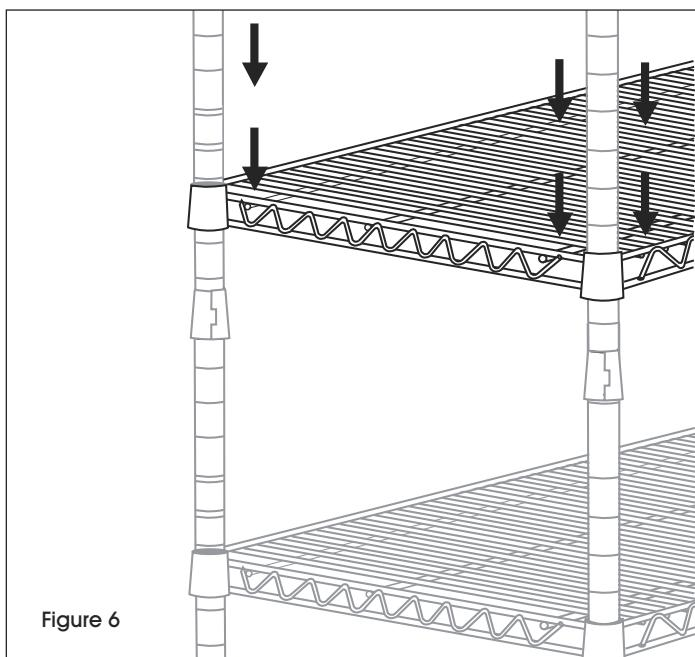

Figure 6
7. Determine the height of the next shelf, snap on supports then add and secure shelf. Repeat this step to add the remaining shelves. (See Figure 6)